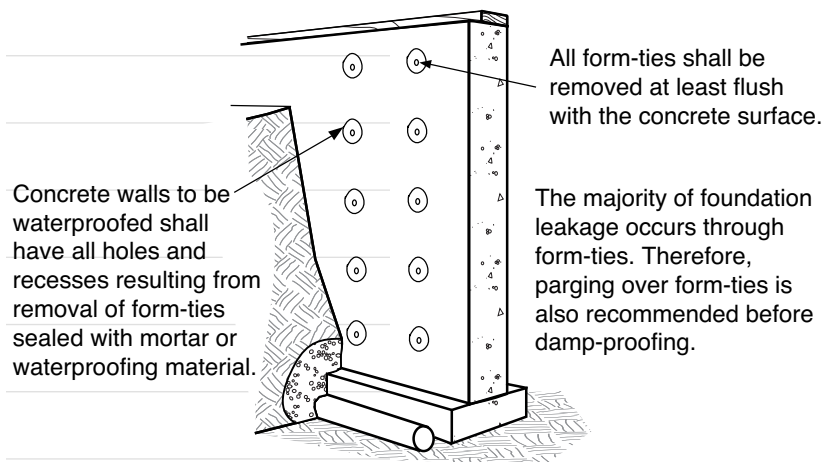

FIGURE 26
- ◆ Patch all holes before applying damp-proofing. Use rapid-set grout, stiff Portland cement mortar, or mastics that are designed to bond with green concrete (see Figure 26).